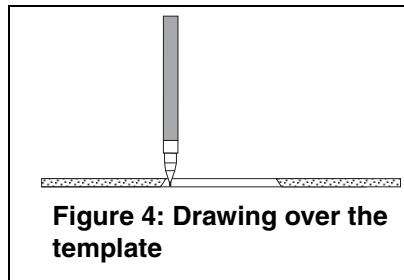

Figure 4: Drawing over the template
- e) A plastic template is included with the PASCO Field Mapper for drawing circles (See Figure 4). Place the template on the conductive paper and draw the circles with the conductive ink pen. (If desired, you may first draw the circle template with a soft lead pencil and trace over the pencil line with the ink.)